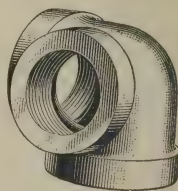

FIG. 9
**22.** A **side-outlet elbow, or three-way elbow**, which has three outlets, is shown in Fig. 9. It is seldom used, because it makes it difficult to properly allow for expansion and contraction of the pipes; but there are some cases where it is necessary. For instance, they may be used for a drip pipe to drain the water of condensation from long runs of pipe at a bend; such a drip pipe or relief should be fitted so that expansion and contraction are provided for as fully as possible. Side-outlet elbows, while listed in most catalogues, are seldom kept in stock.